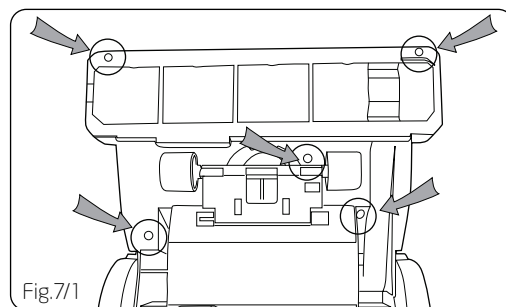

Fig.7/1
Using a Phillips screwdriver, remove the five (5) screws on the underside of the cleaner (Fig.7/1).
Pull down the small set of wheels on the underside and remove the remaining screw inside the black tube (Fig.7/2).